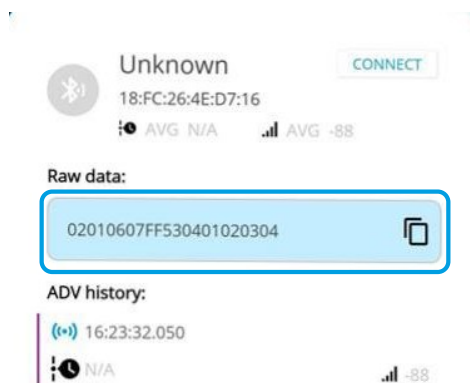

Figure 2.9: See Beacon data in Qorvo Connect
7. Tap on the device with the matching address and verify the advertising data. See figure 2.9.